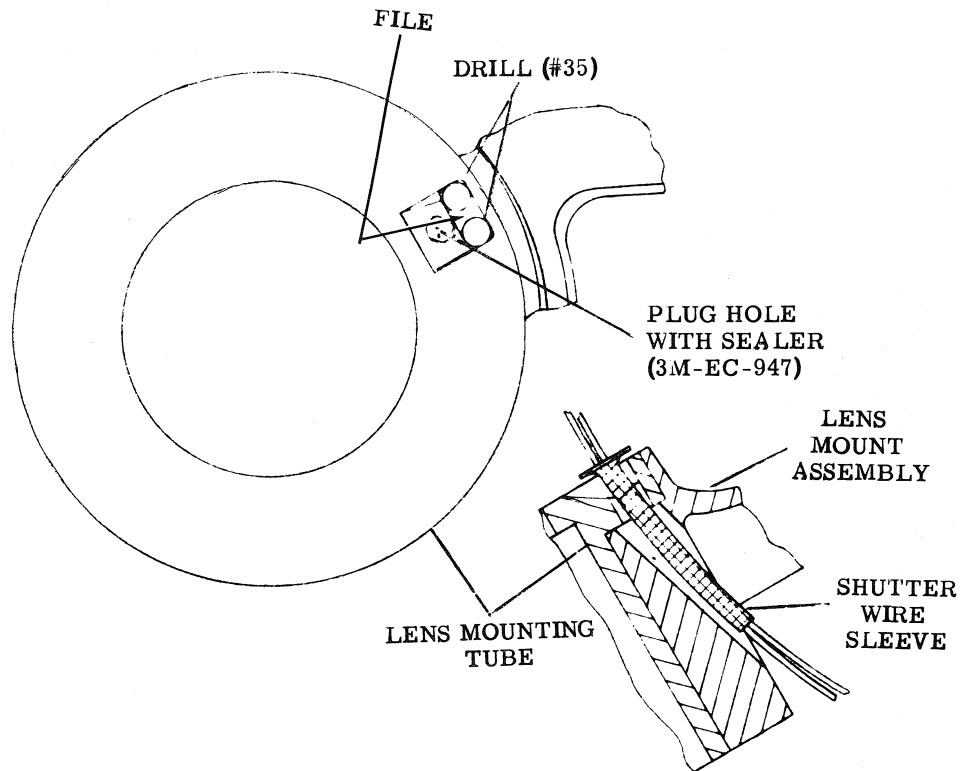

Figure 10. Shutter Wire Hole Modification
flat area (figure 10). File out the center to make a rectangular hole. Use sealer (3M-EC-947) and plug the old shutter wire hole that runs to the inside of the tube.
1. Assemble the lens mounting tube (23) and outline the hole that was drilled and filed above. About 5/64 inch from the bottom of the outline, spot and drill a hole 11/64 inch diameter as illustrated in figures 10 and 11 to the outside of the mount.